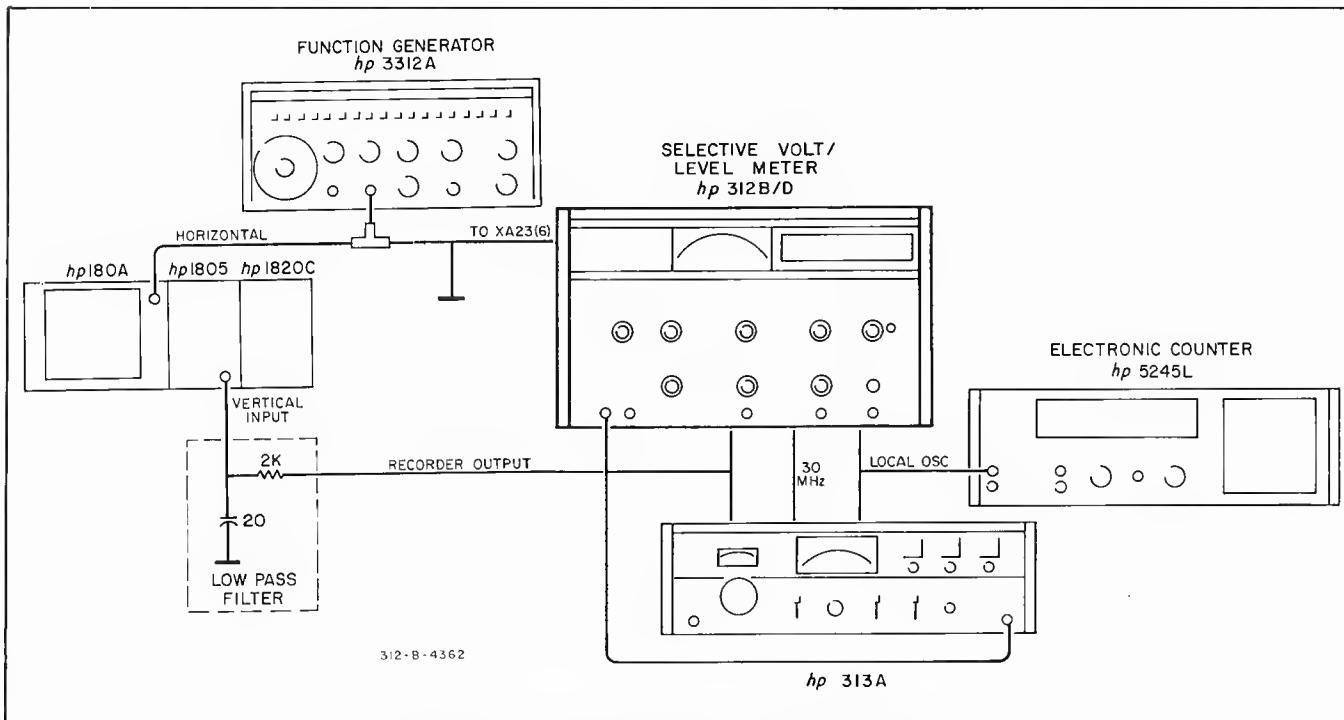

Figure 5-13. Frequency Response – A33 Adj. – 312B/D.
- a. Remove A23 from the 312B/D. Connect the equipment as shown in Figure 5-13.
- a. Set up the equipment as shown in Figure 5-13.